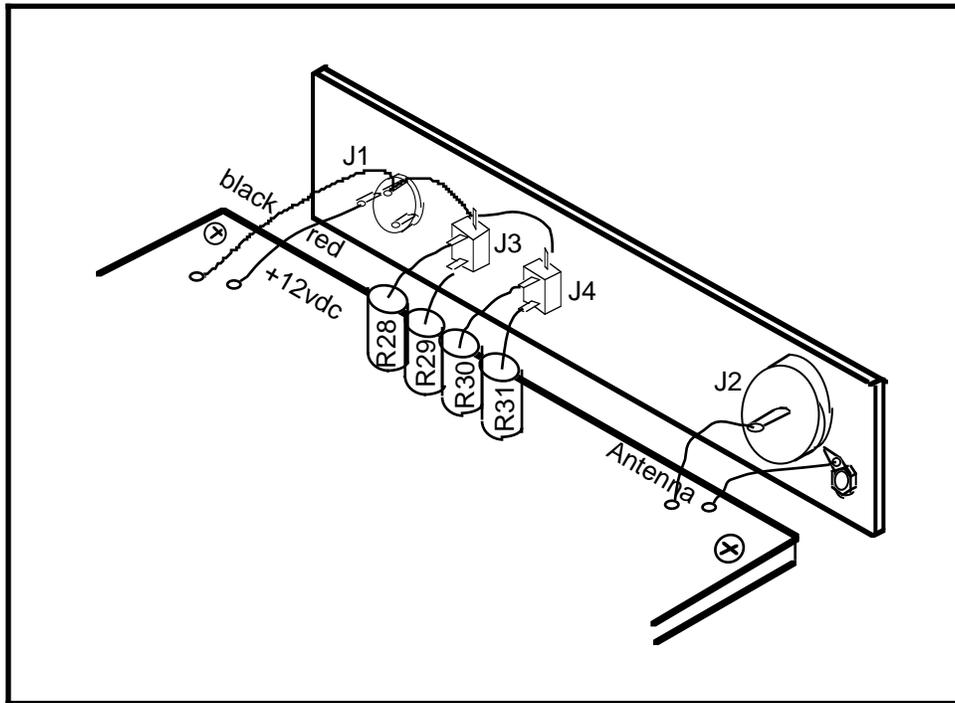

Figure 12. Rear panel wiring
11. Install one end of each fixed resistor R28-R31 on the PC board. The bottom of each resistor should be flush with the board. The other end of each resistor will be soldered later to the audio jacks (see Figure 12).
11. Complete installation of resistors R28, R29, R30, and R31 as shown below. Leave a little extra lead length so that the resistor leads are not taut. First solder R29 and R31 on the bottom tabs of the two audio connectors. Then solder R28 and R30 to the top horizontal tabs as shown in Figure 12.